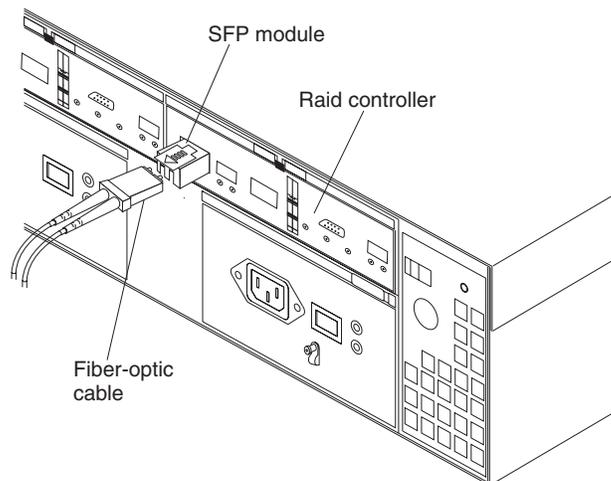

Figure 28. Connecting cables to the installed SFP
2. Connect the fiber-optic cable to the installed SFP, as shown in Figure 28.